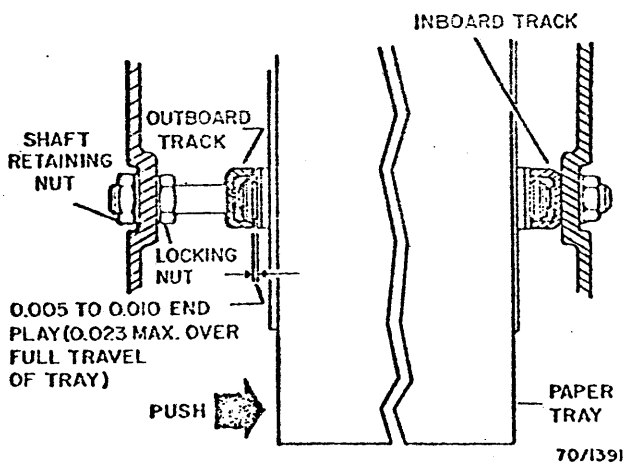

Fig. 3-54. Paper Tray End Play
1. Move the paper tray so that it touches the inboard guide track (Fig. 3-54). Check for end play.